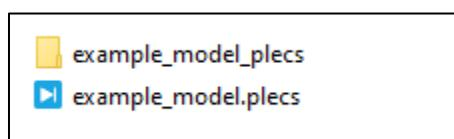

Figure 15: Example of local folder containing thermal models
**Local Path:** To do this, in the directory where the simulation file is located, the user can create a folder with the same name as the .plecs file, with the suffix \_plecs. These models will only be available for the specific simulation in that folder and will be the prioritized models by PLECS. As an example, if a simulation named *example\_model.plecs* is created, then a folder named *example\_model\_plecs* containing the .xml files can be placed in the same directory. This is illustrated in Figure 15. Note that PLECS will add thermal files when started, so it will need to be restarted if the files are added while PLECS is already open (or the thermal library can be refreshed).